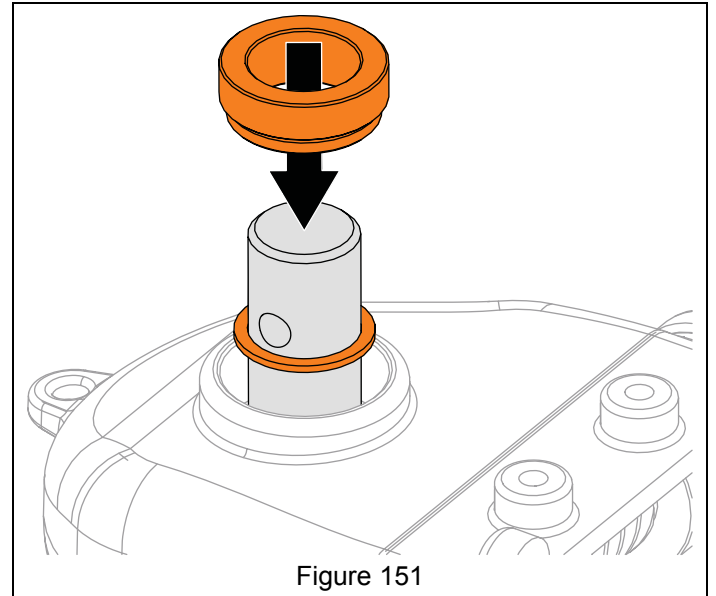

Figure 151
10. Reinstall retaining ring. See Figure 151.